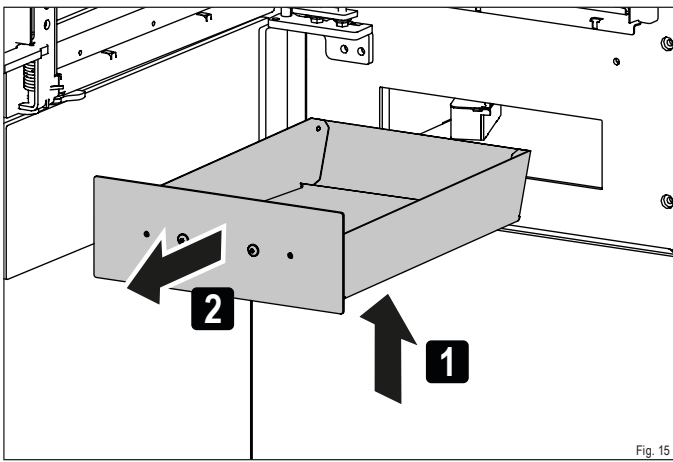

Fig. 15
- ▶ **Pull the ash drawer out of the opening by the cover (Fig. 15).**
- ▶ Pull the ash drawer out of the opening by the cover (Fig. 15).